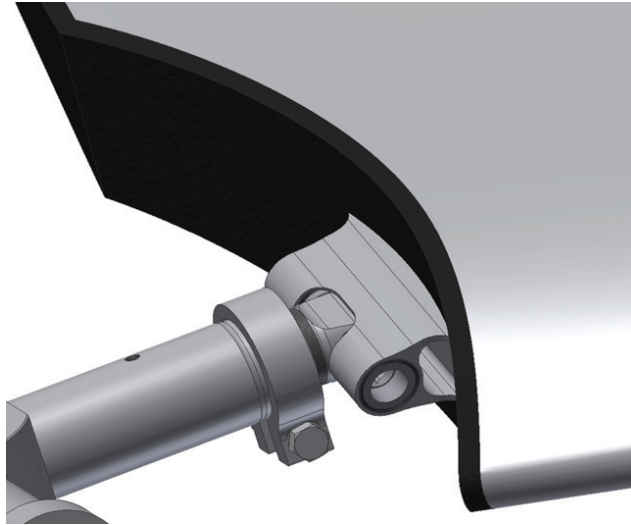

Figure 3
- 5—Install the rest of the blades so that they are identical with the first blade. See **Figure 3**, above, for completed blade connection. **Torque all bolts to 200 ft-lbs (271 N·m)**. If blades are installed properly, they will return to their undisturbed position if the tips are pressed in the axial direction with moderate force (10 to 20 lb).